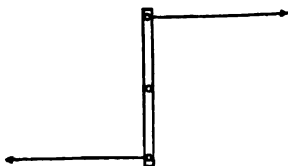

FIG. 68.—A couple.
**86. The Couple.**—If two equal parallel forces act upon a body along different lines in opposite directions, as in Fig. 68, they have no single resultant or there is no one force that will have the same effect as the two components acting together. A combination of forces of this kind is called a *couple*. Its tendency is to produce change of rotation in a body. An example is the action upon a compass needle which is rotated by a force which urges one end toward the north and by an equal force which urges the other end toward the south.